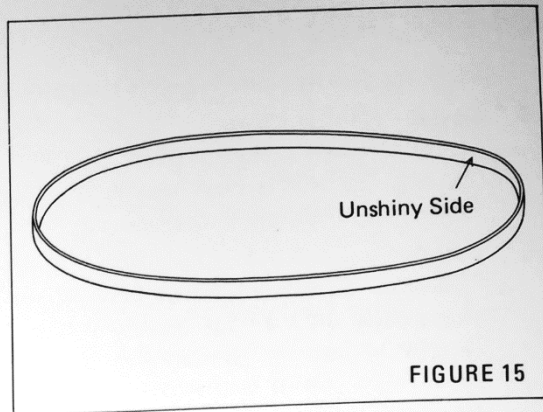

FIGURE 15
(1) Place the belt with unshiny (mat) side against the inside rim of the platter. See Figure 15.